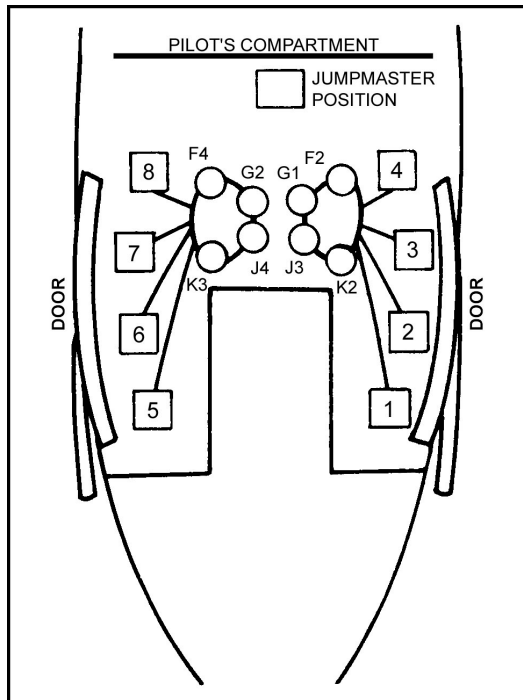

Figure 17-4. UH-1 seating configuration, expedient anchor line system.
c. **Anchor Line Assembly Installation.** An anchor line assembly is installed on each side of the aircraft. It can be installed quickly by means of four tie-down rings located on the floor on the right and left sides of the aircraft compartment. The A-7A strap is threaded through the D-rings, which are used for attachment of the static line snap hooks (Figure 17-4).
During loading, jumpers should not approach directly from the front or sides but at a 45-degree angle to the nose of the aircraft. Jumpers 1 through 4 enter the cargo compartment through the right door, are hooked up by the JM in numerical order, and seat themselves (Figures 17-4 and 17-5). Jumpers 5 through 8 enter the cargo compartment through the left door, are hooked up by the JM in numerical order, and seat themselves.